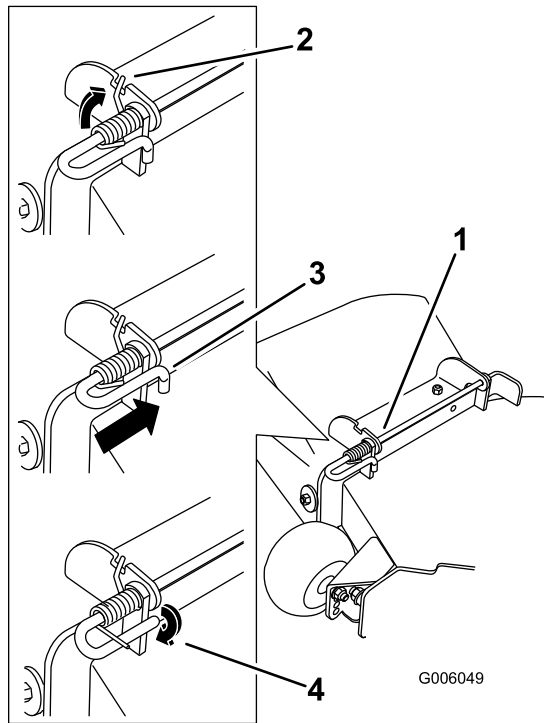

Figure 71
4. Lift the long end of the spring and place it into the notch on the deflector assembly bracket (Figure 71).
5. Secure the rod and spring assembly by twisting it so the short end of the rod can be placed behind the front bracket welded to the deck (Figure 71).